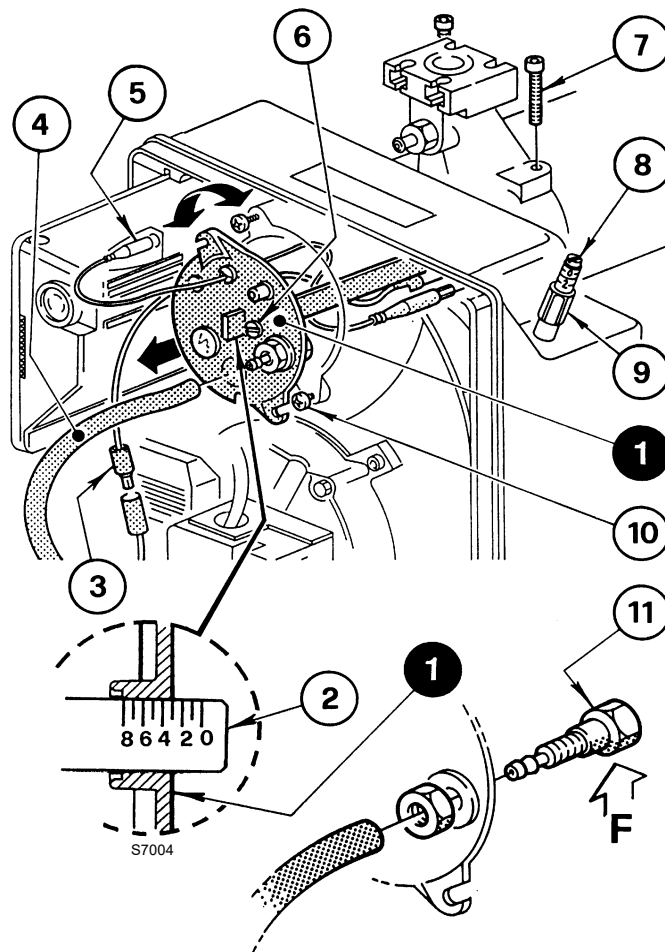

Fig. 13
This is carried out by turning the adjustment screw 6)(Fig. 13) clockwise or anti-clockwise until the notch on the regulating rod 2) lines up with the outside surface of the head assembly 1).
In Fig. 13 the head regulating rod is set to notch 3.
To remove the head assembly (Fig. 13) it is necessary to:
Reassemble with the reverse procedure to that described above, repositioning the head assembly 1)(Fig. 13) as it was originally.
Screw in the screws 7)(Fig. 13) all the way without locking them. Lock them with a tightening torque of 3 - 4 Nm.
If the pressure test point 11)(Fig. 13) should become slack accidentally(Fig. 13) we recommend fixing it correctly ensuring that the hole (F) (Fig. 13) inside the head assembly 1)(Fig. 13) is facing downwards.